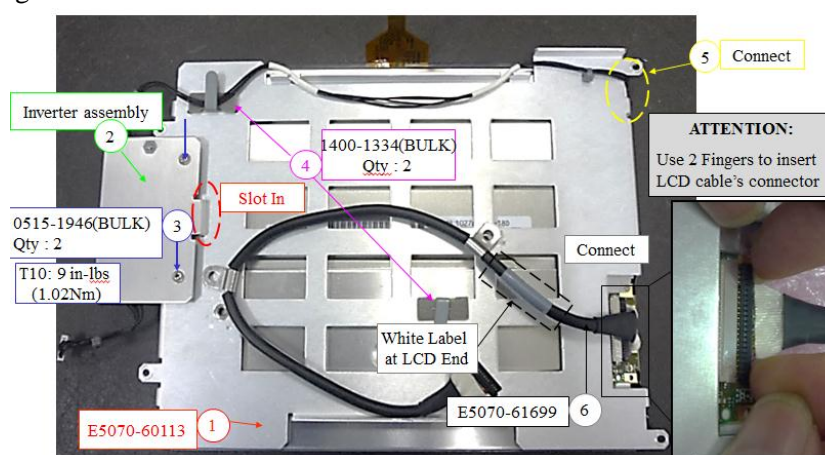

Figure 1-5
4. Install the inverter assembly onto the new CLD T/P display assembly (with LED backlight). Refer to figure 1-5 for details.